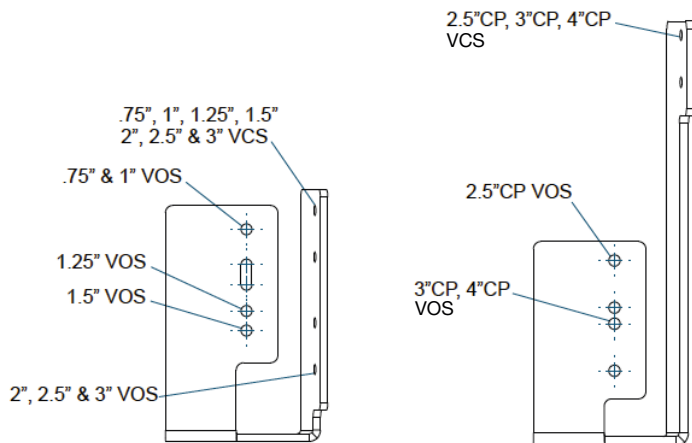

Figure 4:
- Note wand position and mounting hole location. Carefully remove the 2 screws and lift existing switch. Reference Figures 4 through 9 on page 49 (ADD SWITCHES) to ensure correct switch location.
- Reference Figures 4 through 9 (below) to ensure correct switch location. Valve size is depicted in the model number by the first 4 dig- its. For example, a 3" CP valve should have Model No. 300C.